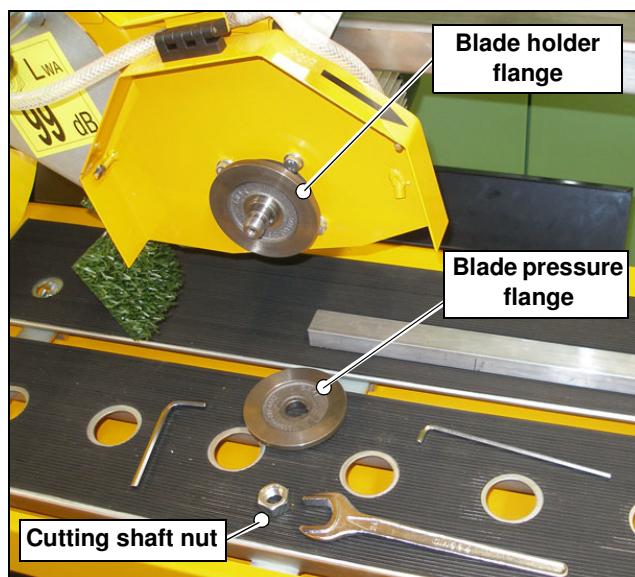

Fig. 3.23 Blade guard opened
3. Remove the blade pressure flange (Fig. 3.23).